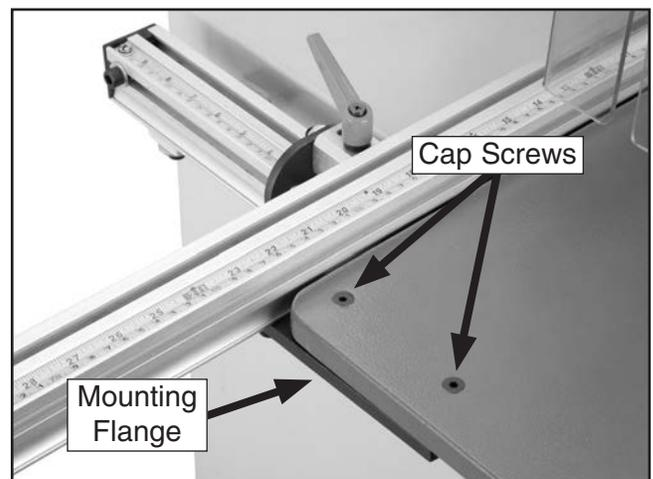

Figure 11. Table mounted to longitudinal fence.
4. Position the table over the mounting flanges of the longitudinal fence, as shown in **Figure 11**.